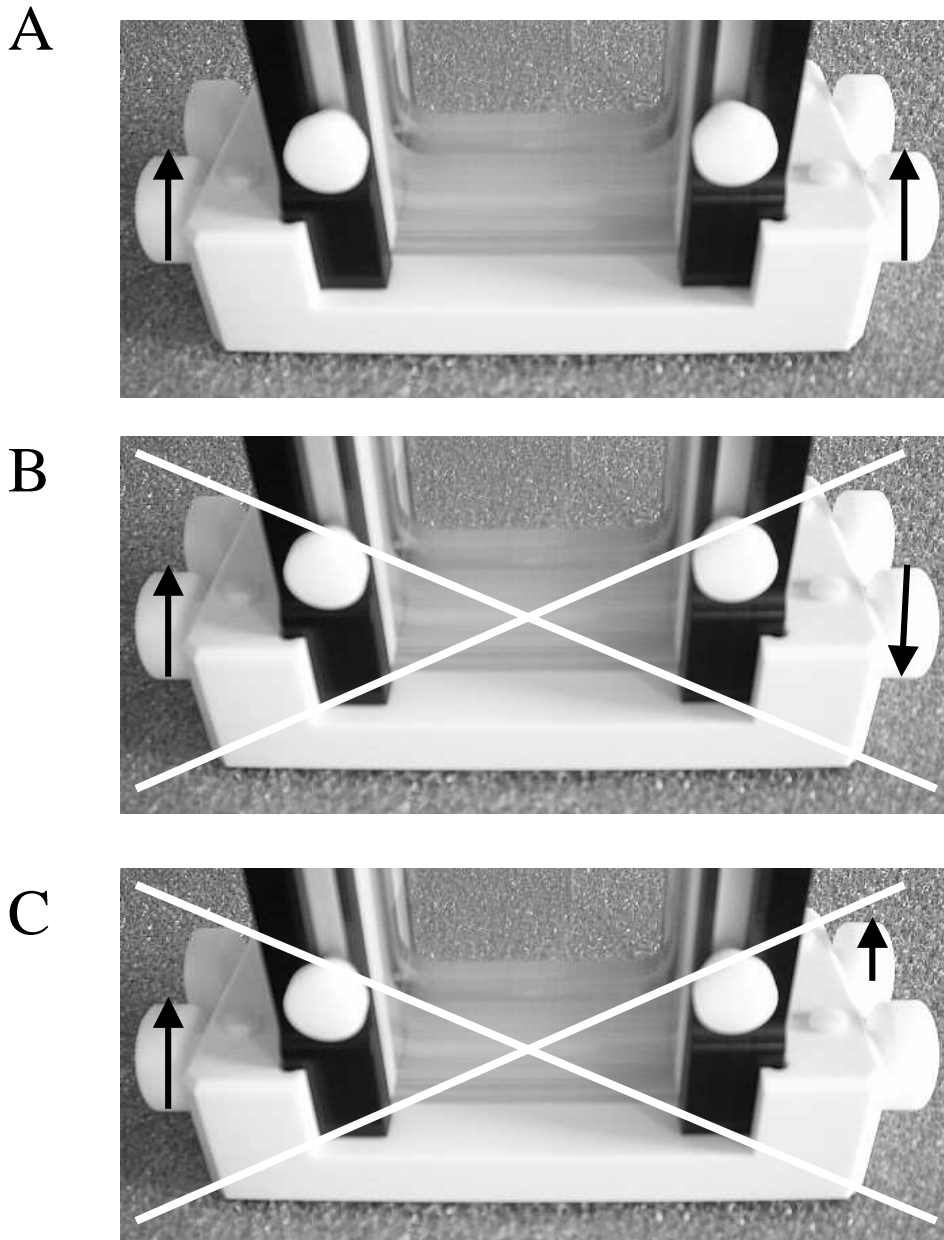

Fig. 1: A shows the correct handling. If you tighten the screws as displayed in B and C, leakage can occur.
9. Place the inner core running unit onto the silicon pads of the gel casting stand. Insert the cams through the holes in the ends of the casting module. The flattened side of the cams has to point upwards. Use the cams to tighten the assembly down onto the silicone pads by turning simultaneously with both hands the set of two front cams gradually (say, by 90 degrees). Then move to the two cams in the back and proceed in the same way. Repeat this procedure until the flattened side of the cams points downwards (max. position!) **(see fig. 1, A). Important: do not try to overtighten** the cams; the casting adapter will now seal the glass plates properly.